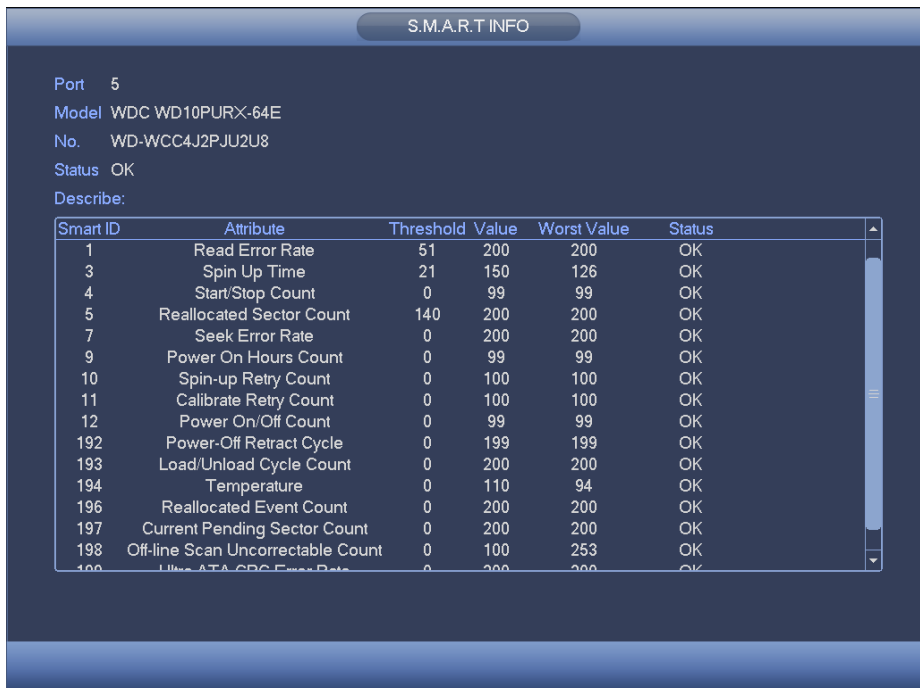

Figure 4-216
- SMART: Display HDD information. See Figure 4-216.
Double click , you can see the HDD SMART information. See Figure 4-216.